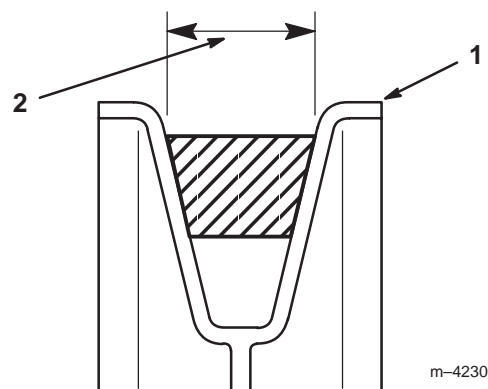

Figure 7
4. Ensure that the wide side of the PTO drive belt is toward the outside diameter of **all the pulleys** (Fig. 7).